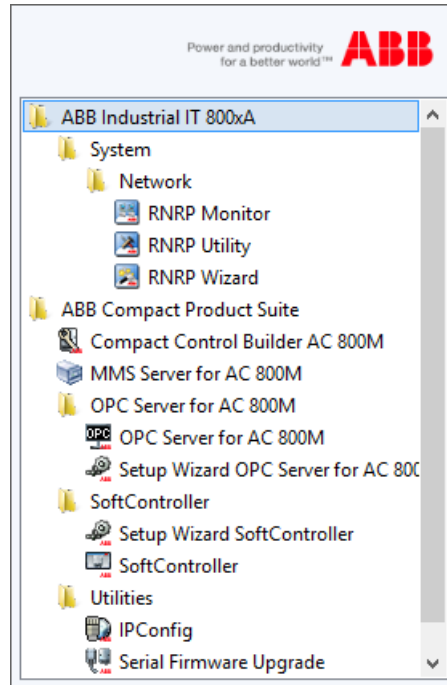

Figure 1. ABB Start Menu
- ABB Start menu is introduced in this release to access the ABB applications in Windows 8, as shown in Figure 1. The shortcuts are classified under different folders in a tree structure. User can open the relevant folder and click the appropriate menu item to launch the required ABB application.